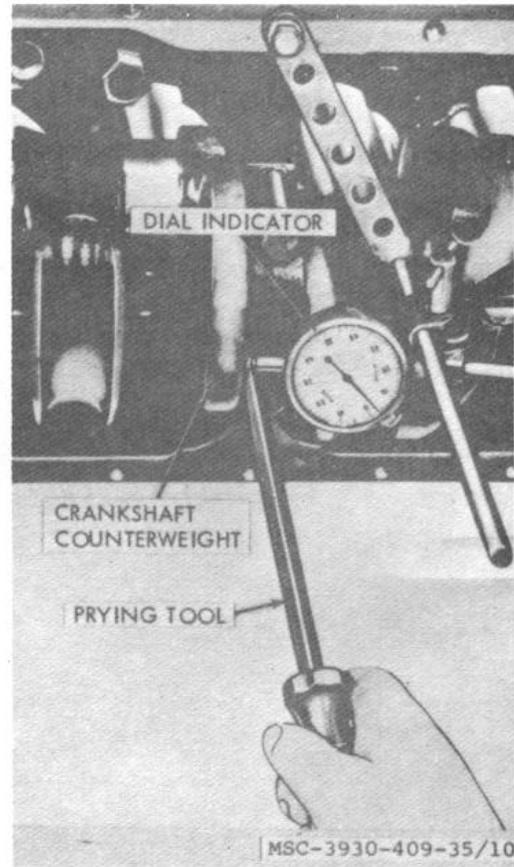

Figure 3-23. Checking crankshaft end play.
f. Mount a dial indicator as illustrated in figure 3-23 so it rests against a vertical surface. Refer to table 1-1 for allowable dimensions; pry crankshaft back and forth, and measure crankshaft end play.